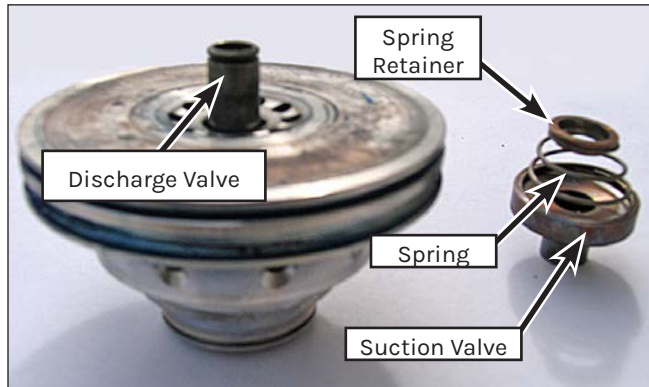

Figure 123: Valve Installation.
1. Install the discharge valve into the valve body (Figure 123).